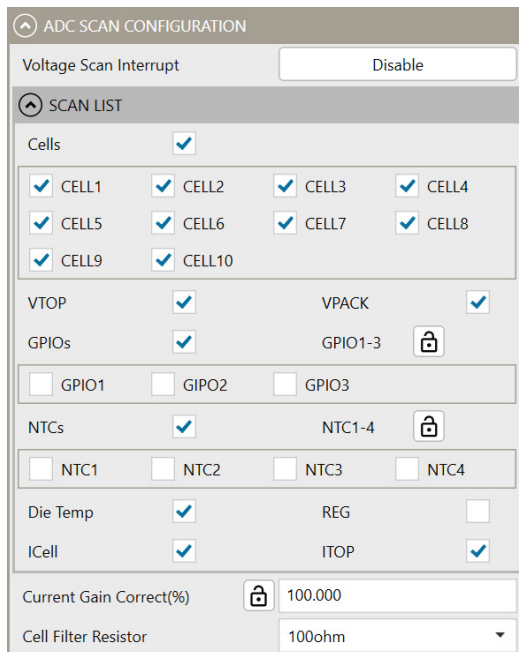

Figure 12: ADC Scan Configurations
14. Figure 12 shows how to configure the ADC scan parameters.